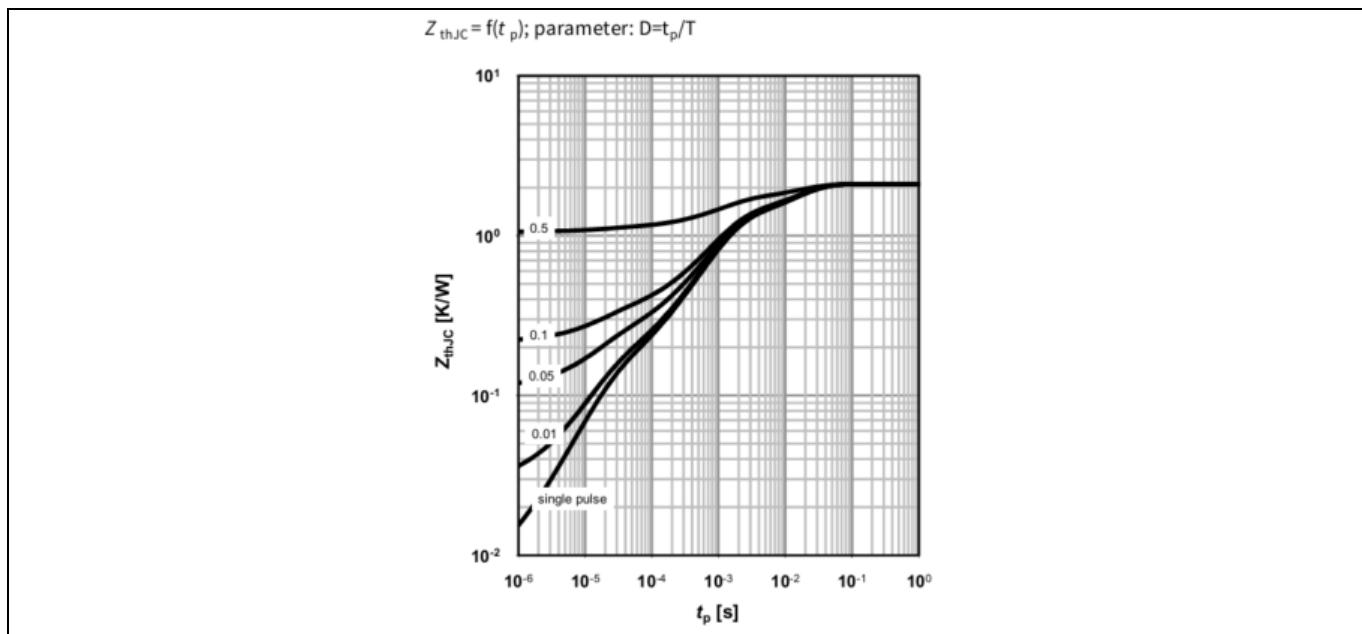

Figure 7 Maximum transient thermal impedance $Z_{thJC}=f(t_p)$
The transient junction-to-case thermal impedance Z_{thJC} takes the heat capacity C_{thJC} of the device into account. It can be used to estimate temperature raise caused by transient power losses. Depending on the pulse width t_p and the duty cycle $D = t_p/T$, thermal resistance varies over a wide range and its behavior is specified as a diagram in the datasheet as seen in Figure 7. The junction temperature increase can be calculated by the following equation (4). $T_{J,start}$ is equal to T_c at thermal equilibrium before the power pulse is applied.